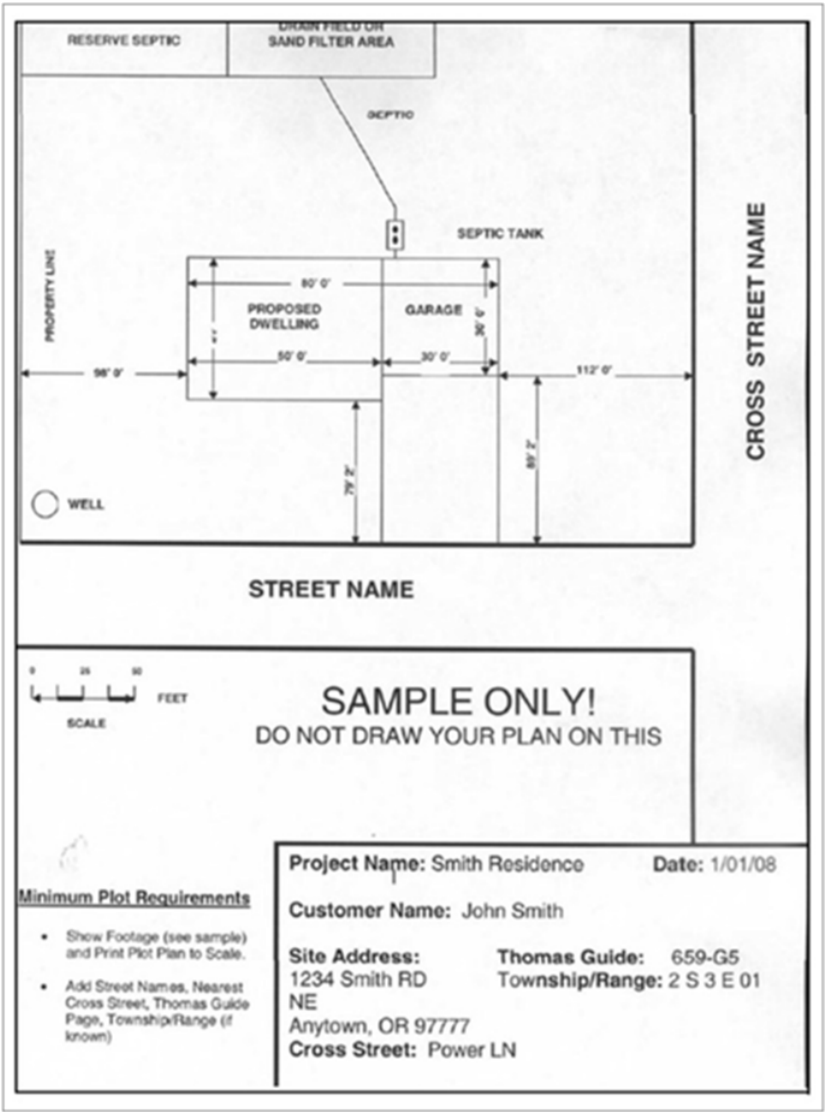

Figure 128. Example Plot/Site Plan
3. Provide a hard copy of the scaled plot or site plan that was submitted for the building permit. New connected load data that is not accompanied by a site plan may delay initiation of service. Figure 128 shows an example plot/site plan.